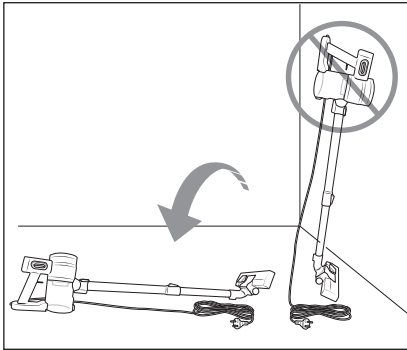

Fig. 4
- Do not attempt to place the vacuum cleaner upright when you want to put it down or take it out of your hand in the meantime. To do this, place the vacuum cleaner in the wall bracket **10** or lay it on the floor (see Fig. 4 and 5). Due to its high centre of gravity, the vacuum cleaner may otherwise tip over and be damaged and possibly damage other objects when tipping over.